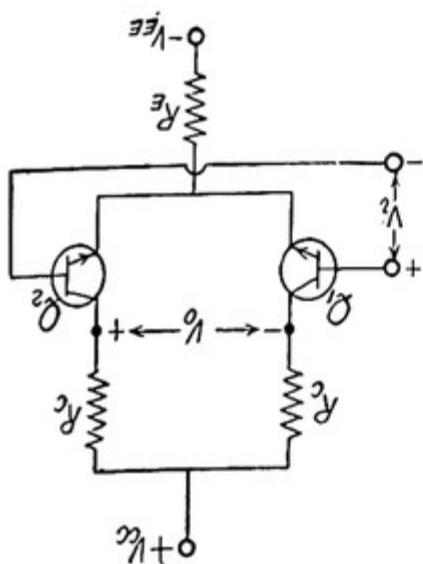

Fig. 8. Differential input.
(1) *Differential input* : We can drive the differential amplifier with a signal between the bases as shown in fig. 8. Here  $V_i = V_1 - V_2$  so that  $V_o = AV_i$ .